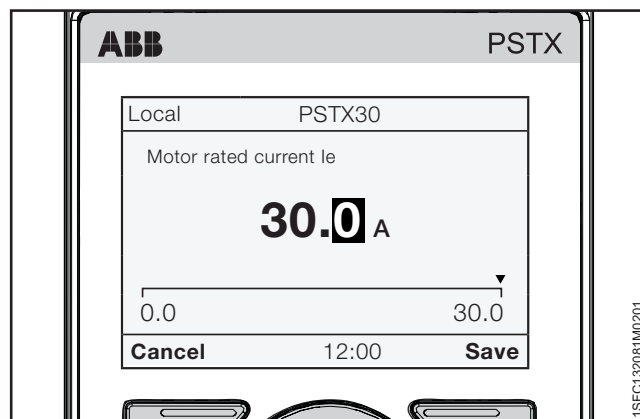

Figure 6.9
1. The Home view is the top level. Push  "Menu" to enter the menu. The screen now appears as in **Figure 6.9**.
See **Figure 6.9**. If you want to quit, you select  "Cancel".